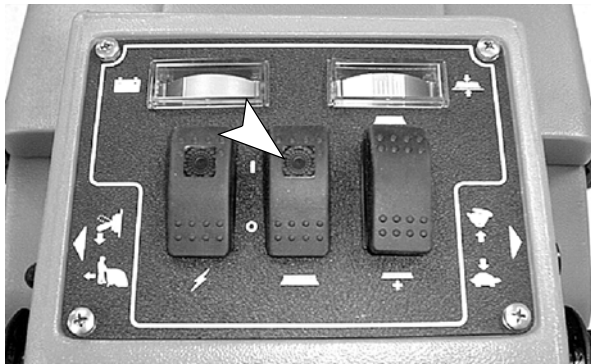

FIG. 16
- To transport machine, turn off pad switch and twist control grips. Pad will automatically raise to the transport position (Figure 16).